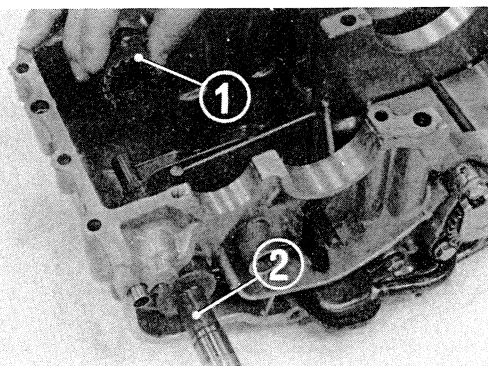

Fig. 14 (1) Kick starter ratchet (2) Kick starter spindle
- Install the kick starter ratchet with the kick starter spindle placed in the position shown in Fig. 14.